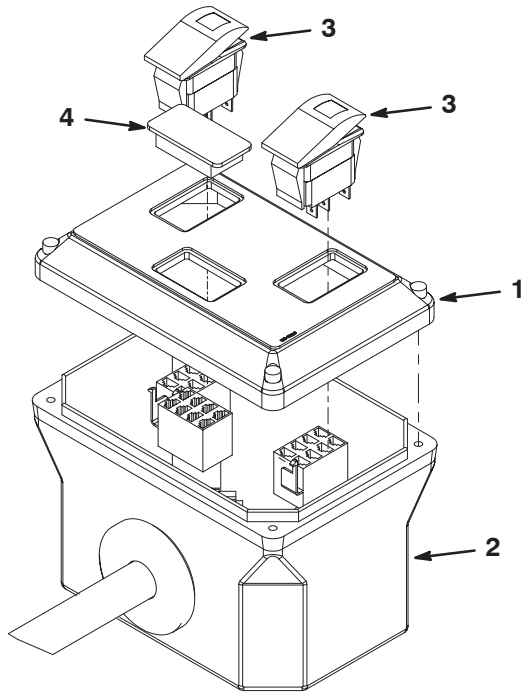

Figure 8
12. Loosen the (4) screws securing the cover to the remote control box (Fig. 8). Lift the cover off the box enough to unplug the switches from the internal connectors.
13. Remove the switches and the plug from the cover (Fig. 8). Note the switch location for re-installation in the new cover. Discard the cover.